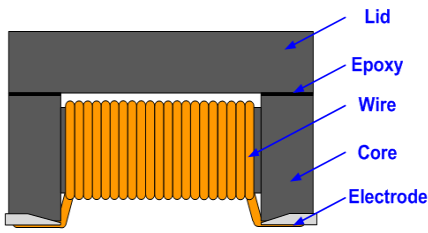
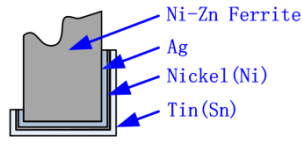

Fig.4-1
Fig.4-2
4.1 Structures: See Fig.4-1, Fig.4-2 and Table 4-1.